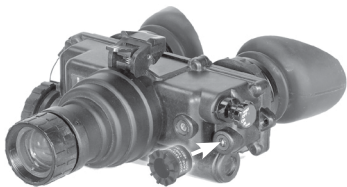

Figure 2-6. Installation of the IR Spot/Flood Lens
1. Press the IR spot/flood lens over the IR source until it is tight against the goggle. Refer to Figure 2-6.